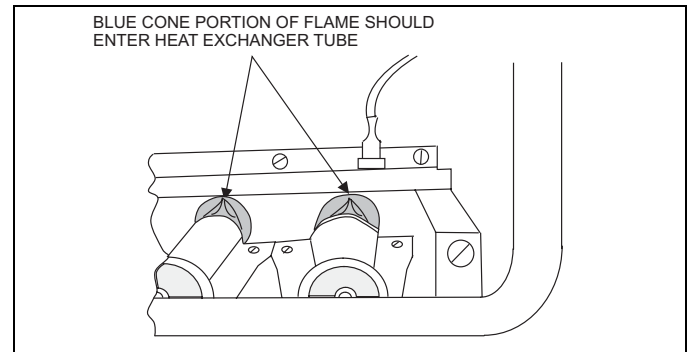

FIGURE 4: Burner Flame Drawing
6. Examine the burner flames to make sure they are in good adjustment. Refer to the pictorial sketch shown in Figure 4 as a comparison to the actual flame.